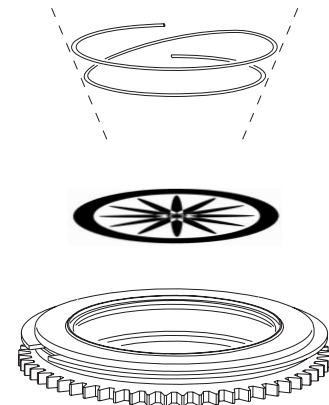
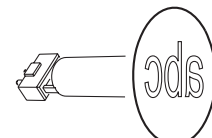

Figure 21: Rotating gobo holder
Figure 23. Correct gobo orientation
5. Insert the new gobo in the holder with the side that faces towards the lamp facing upwards, towards the spring (see Figure 23 and Figure 21).
6. Insert the spring with the narrow end against the gobo, as shown in Figure 21. To identify the narrow end, press the spring flat: the narrow end is on the inside. Push the end of the spring in under the lip of the holder.
The orientations shown in Figure 23 are correct in most cases, but consult your Martin dealer or gobo supplier if you are in any doubt about the orientation of a specific gobo type.